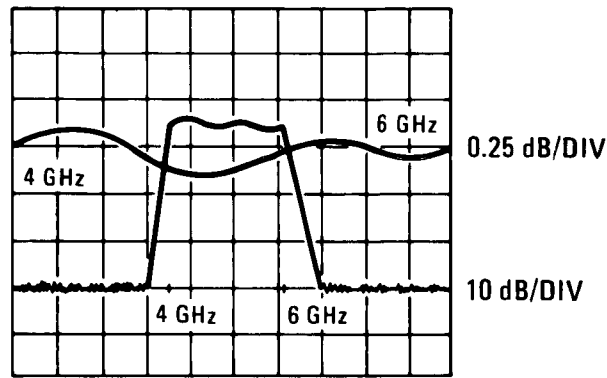

Figure 20. Alternate Sweep Function Display
**Alternate Sweep Function.** The ALTn function of the 8350B allows two different frequency and power settings to be swept on successive sweeps. The front panel setting and the setting stored in a memory register location n ( $n=1, \dots, 9$ ) can be selected for alternate sweeps. See Figure 20 for a sweep display of the ALTn function when used with a bandpass response at different resolutions and offsets.